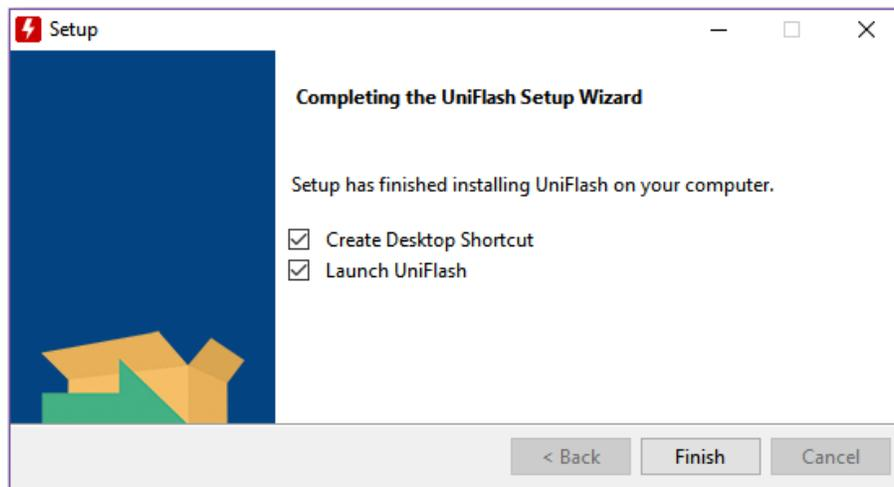
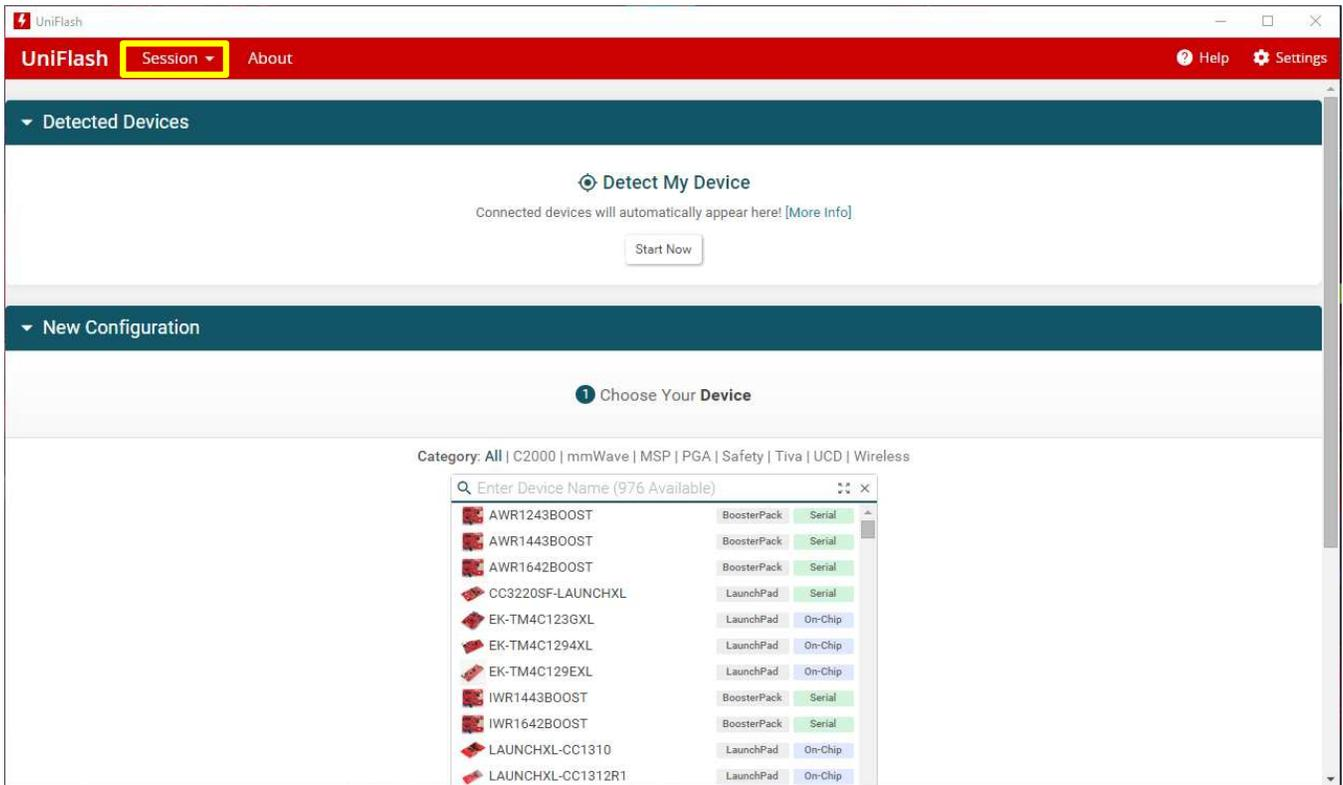

Figure 24. Setup Screen 12
Figure 27. UniFlash Programming, Step 1
4. Typically, the installed UniFlash program opens at the end of the software setup shown in Figure 24. If the UniFlash program is not open, launch the program. The window shown in Figure 27 opens.
5. Click **Session** shown in Figure 24.